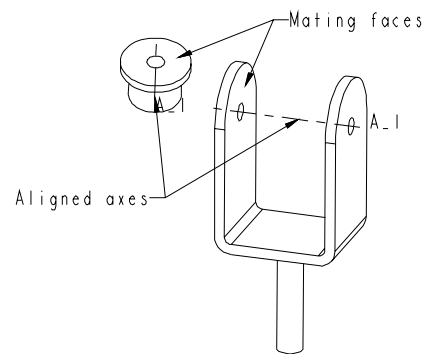

Figure 9-43 Constraints and the location to apply them
4. Select the planar surface of the Bushing shown in Figure 9-43.
5. Select the left inner face of the U-Support as the other face to add the mate constraint as shown in Figure 9-43. Now, you are prompted that the component is not fully constrained but can be packaged. But, you need to fully constrain the components.
7. Select the axis of the Bushing as shown in Figure 9-43 to add the **Align** constraint.
8. Select the axis of the hole on the vertical face of the U-Support shown in Figure 9-43. The **Placement Status** area shows **Fully Constrained**.